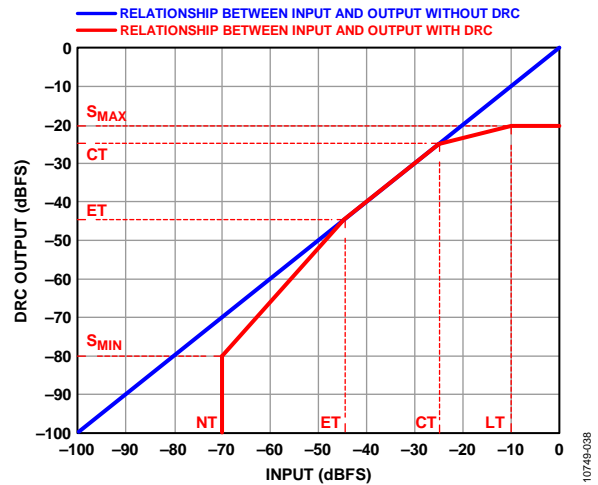
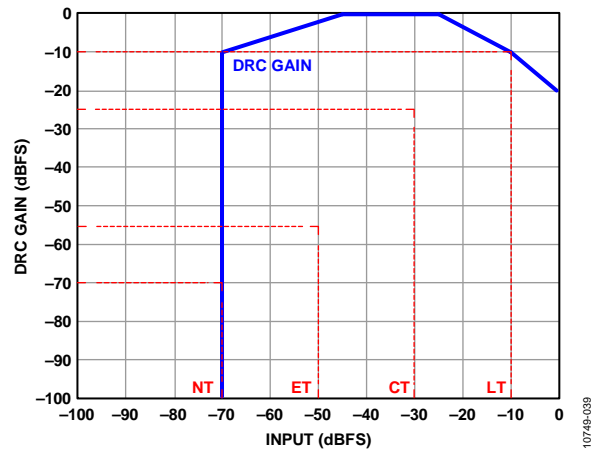

Figure 39. DRC Output vs. Input
Figure 40. DRC Gain vs. Input
An example of such a static curve is given in Figure 39, which shows the input and output signal levels. The blue line shows a linear relationship where the output dynamic range is identical to the input dynamic range. The red line shows a different output dynamic range from the input. Furthermore, this curve indicates that the signal dynamic range is larger when the input signal is low.
Figure 40 shows the gain values at various input signal levels.
A number of threshold levels (referred to the input) are used in Figure 39 and Figure 40; these levels are defined as the limiter threshold (LT), compressor threshold (CT), expander threshold (ET), noise gate threshold (NT), maximum output signal amplitude (SMAX), and minimum output signal amplitude (SMIN). The corresponding bits, DRC_LT, DRC_CT, DRC_ET, DRC_NT, DRC_SMAX, DRC_SMIN, can be found in Register 0x59 to Register 0x5D.